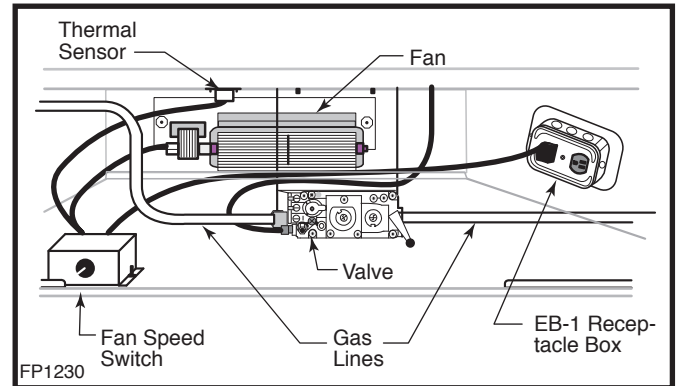

Fig. 54 FK24 fan placement.
3. Locate the fan speed control unit. This can be fitted behind the lower louvre assembly as in Figure 54 or located remotely in a conveniently located wall mounted electrical box. Remote location of the speed control will require suitable extension of the component wiring.